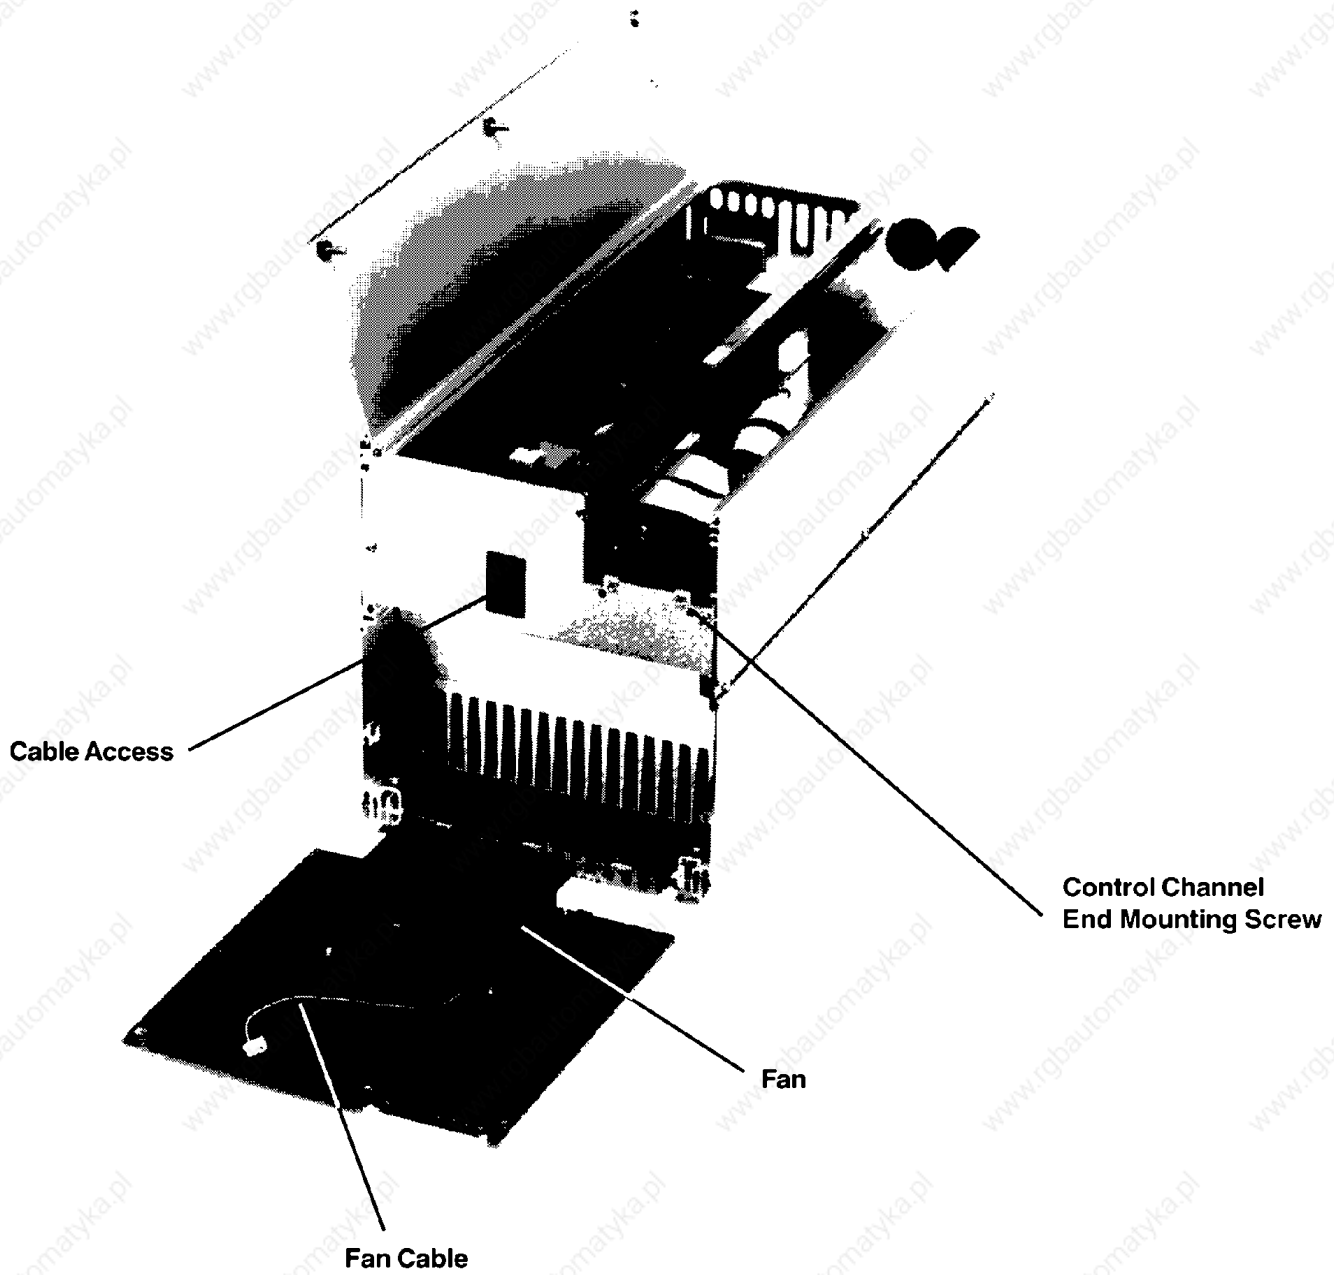

Figure 8: Top Cover and Fan Removal
3. Disconnect fan cable(s) from MK10 and/or MK11 on power card. Remove top cover while threading fan cable(s) through opening in top bulkhead (see Figure 8).